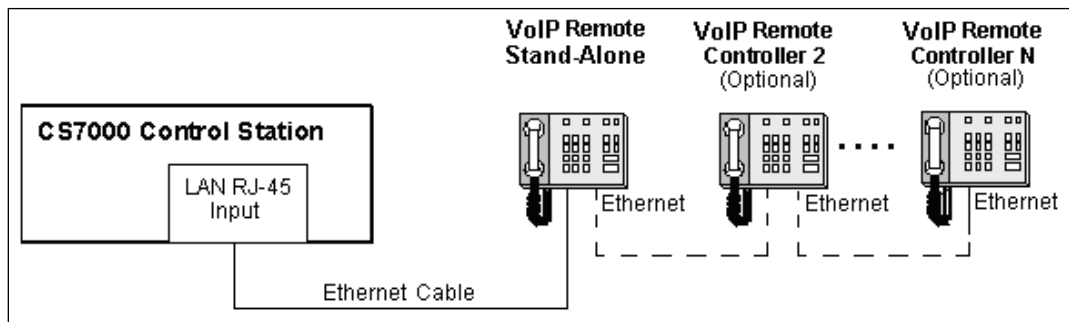
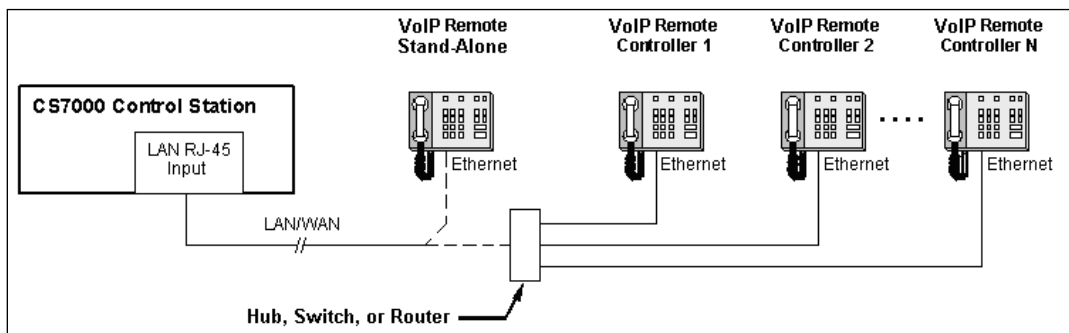

Figure 5-4: CS7000 Installed Locally using Ethernet Connectivity (no Hub or Switch)
Figure 5-6: CS7000 Installed Remotely Using VoIP Using LAN/WAN Connectivity
For installations where the CS7000 Control Station and the VoIP remote(s) are co-located at the same location, one (1) IDA 24-66 VoIP Remote Base Controller may be connected directly to the CS7000 Control Station via an Ethernet cable. See Figure 5-4. Additional VoIP Remote Controllers may be connected in a daisy chain fashion to the first remote by using the 2nd Ethernet port built into each IDA 24-66 VoIP Remote Base Controller. This configuration is desirable when all equipment is located together in a relatively small area, such as an office or small business location. This configuration minimizes the need for routers, hubs, and other potentially costly hardware, and offers increased security (when needed) since the Ethernet wiring is localized.
For installations where the CS7000 Control Station and the VoIP remote(s) are located at different locations, Wide Area network (WAN) Ethernet connectivity must be utilized. WAN connectivity may be in the form of a publically accessible ISP (the internet), or a privately managed ISP (refer to Figure 5-6).
In this configuration, one remote may be directly connected to the WAN's Ethernet connection, and more remotes may be daisy chained to the first remote similar to the method shown in Figure 5-4. Or, a multi-connection Ethernet device, such as a hub, switch, or router may be used to connect multiple remotes to the station (refer to Figure 5-6). This configuration is beneficial by providing connectivity to more than one location, and multiple remotes, over great distances.